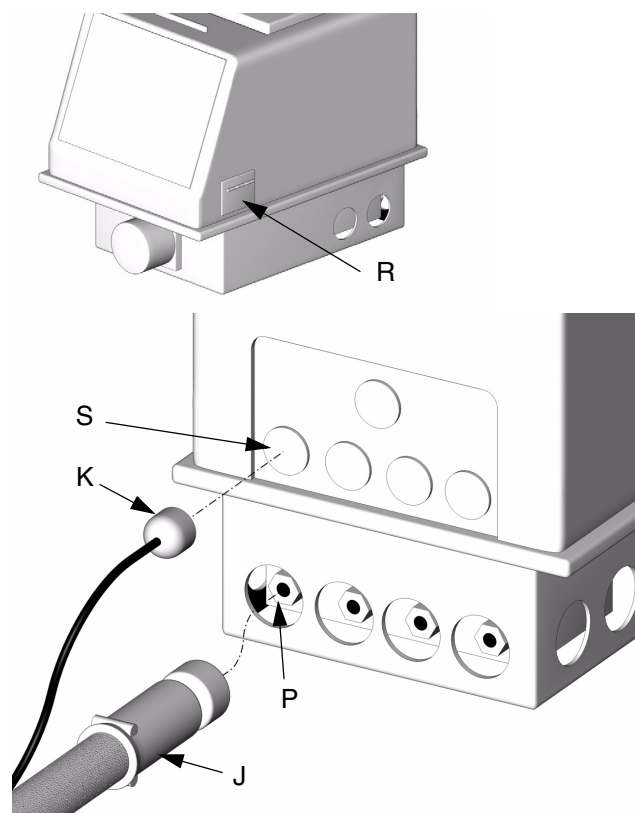

FIG. 4: Replacing hose
2. See FIG. 4. Turn on/off switch (R) OFF. Unplug tank unit.
5. See FIG. 4. Remove bayonet ring from the electrical connector (K).
6. Pull electrical connector (K) from the hose electrical receptacle (S).
7. Using an 11/16 in. wrench, remove hose (J) from the fluid outlet fitting (P).